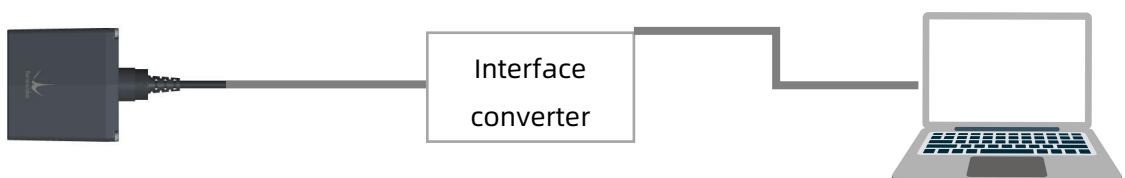

Figure 16 TF350 connecting to PC
- Connect TF350 to the PC or laptop with a paired USB converter cable as shown in Figure 16 TF350 connecting to PC. The UART version TF350 needs a UART-USB converter, and the CAN version TF350 needs a CAN-USB converter.